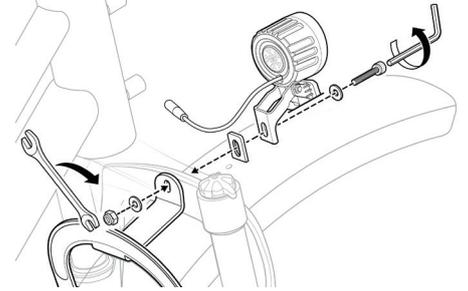

Figure 1 Install lock mount.
- Place a flat washer on the 38 mm replacement bolt and pass through the headlight, front fender mounting point, and the fork bridge (see Figure 1).